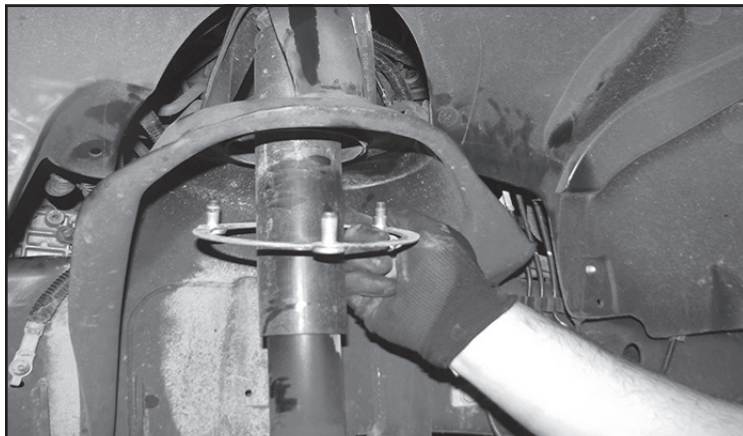

FIGURE 6 - STEP 7
7. Remove the shock tower nuts and retaining plate. **SEE FIGURE 6**